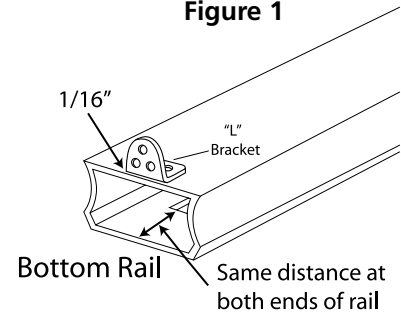

Figure 2
2. Mark the rails for the inside distance between the posts. The distance from the end of the rail to the first baluster hole should be equal on both ends of the rail. Ensure that all screws will fasten into the rail and none fall into the routed baluster holes (Fig. 2,3).
4. Center the "L" bracket on the underside of the bottom rail (Fig. 2). Inset the "L" bracket 1/16" from the end of the rail. Mark the three hole locations on the rail. Pre-drill 1/8" hole at desired locations. Repeat for opposite end.
10. Center the hinged bracket on the underside of the bottom rail (refer to Fig. 2). Inset the hinged bracket 1/16" from the end of the rail. Mark the three hole locations on the rail. Pre-drill 1/8" hole at desired locations. Repeat for opposite end.